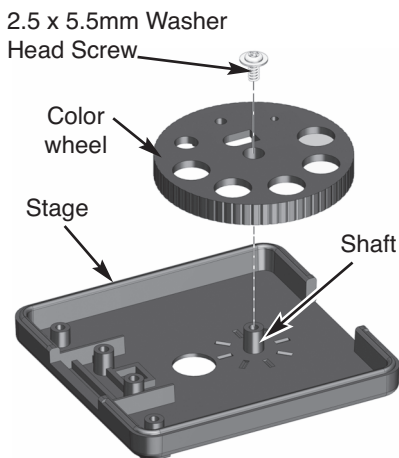

Figure 8
- ❑ Position the stage so the bottom is facing up, as shown in Figure 8. Place the color wheel onto the shaft with the flat side up. Attach the wheel using the a 2.5 x 5.5mm washer head screw. Check that the wheel rotates and locks into each positions.